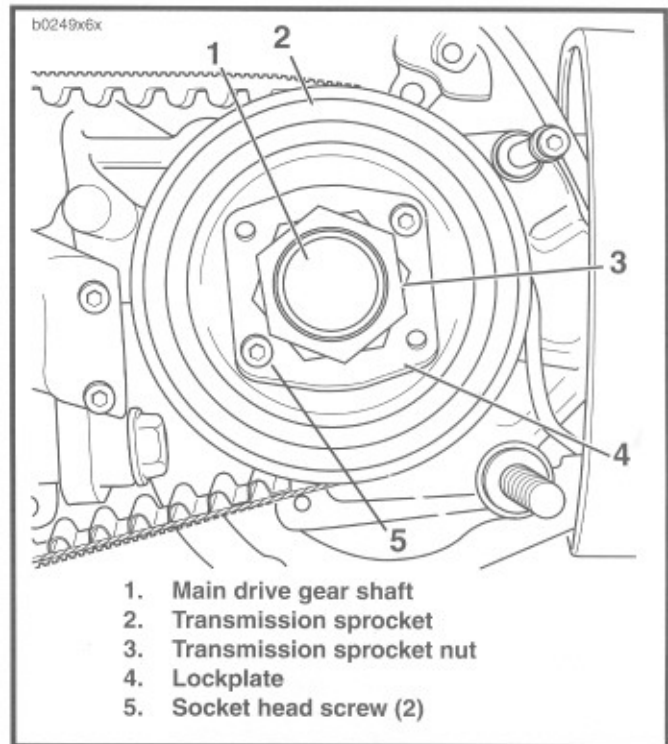

Figure 6-19. Transmission Sprocket
4. See Figure 6-19. Place transmission in first gear. Remove two socket head screws (5) and lockplate (4).
7. See Figure 6-19. Remove secondary drive belt from transmission sprocket (2). Remove transmission sprocket from main drive gear shaft (1).